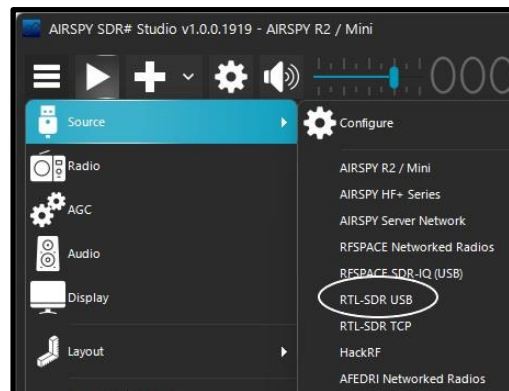

Figure 9: The correct source is circled in white.
18. When SDR# opens, go to the main menu (three white lines at the top left). Put your cursor over Source and from the menu that appears select RTL-SDR USB (Figure 9).